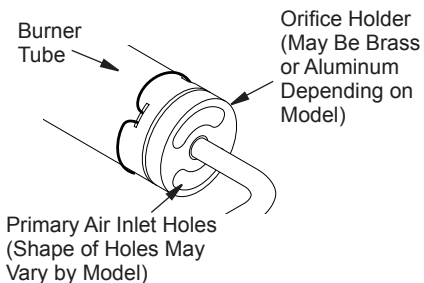

Figure 32 - Orifice Holder On Outlet Burner Tube
2. Inspect burner, pilot and primary air inlet holes on Orifice holder for dust and dirt (see Figures 32 and 33).